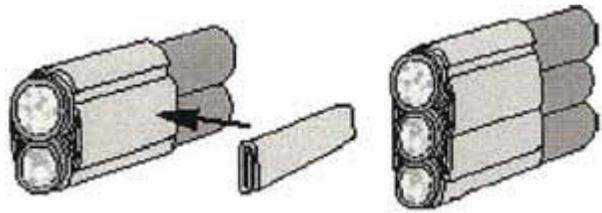

Figure 2
2. For branch ends, cut and fold two 2-inch strips of sealant. Press the branch cable sealant collar, then place one folded strip on each side of the branch area as shown. Compress the sealant to eliminate voids. Refer to Figure 2.